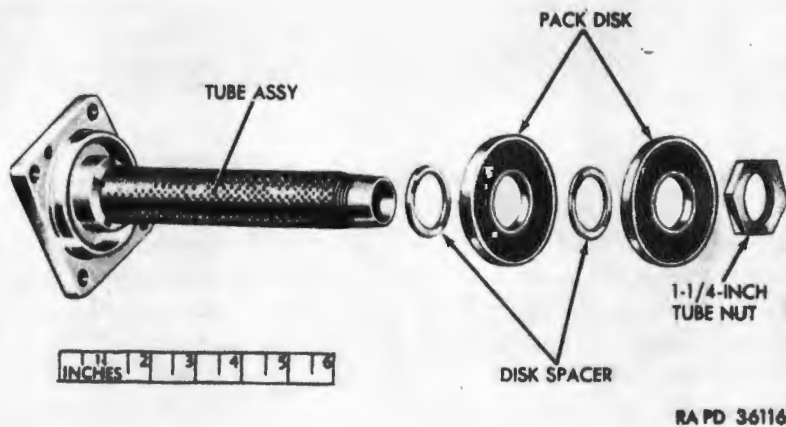

Figure 182. Sump oil filter—exploded view.
Remove tube nut (fig. 182) holding pack disks and spacers on tube assembly and slide off disks and spacers. Discard any damaged pack disks. Wash spacers, disks, and tube assembly thoroughly in dry-cleaning solvent or mineral spirits paint thinner.
- (1) **Converter and sump oil filters.** Install pack disks (fig. 182) and spacers alternately on tube assembly and secure with 1 $\frac{1}{4}$ -inch tube nut.